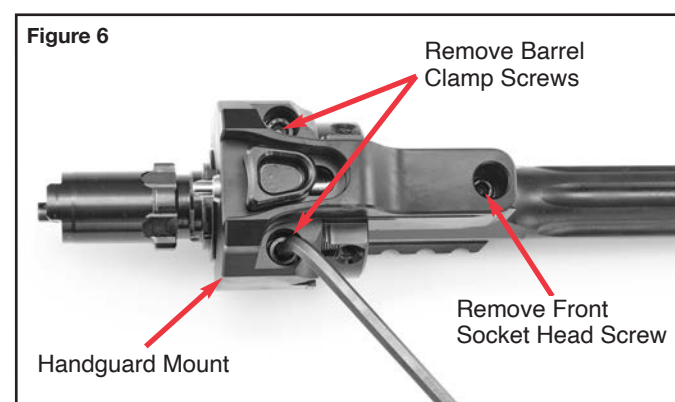

Figure 6
1. Using a 5/32" allen wrench, remove the two barrel clamp screws from the bottom of the handguard mount. (See Figure 6.)
2. Using a 9/64" allen wrench, remove the front socket head screw from the bottom of the handguard mount. (See Figure 6.)